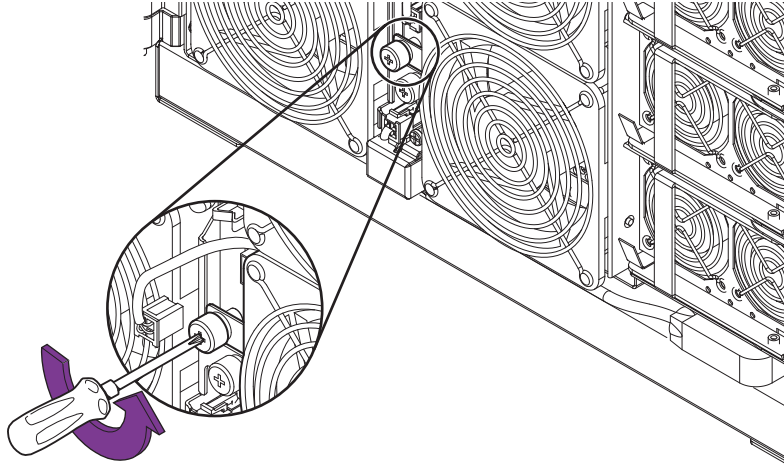

FIGURE 6-2 Loosening the Fan's Captive Screw
6. Loosen the appropriate captive screw that secures the fan (FIGURE 6-2).
4. Tighten the captive screw to secure the fan (FIGURE 6-2).